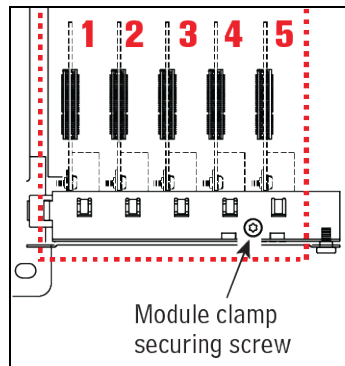

Figure A-8. Comm Module Clamp Securing Screw
2. On the communications bay, use a T-15 Torx driver to loosen the module clamp securing screw and remove the clamp (see Figure A-8).